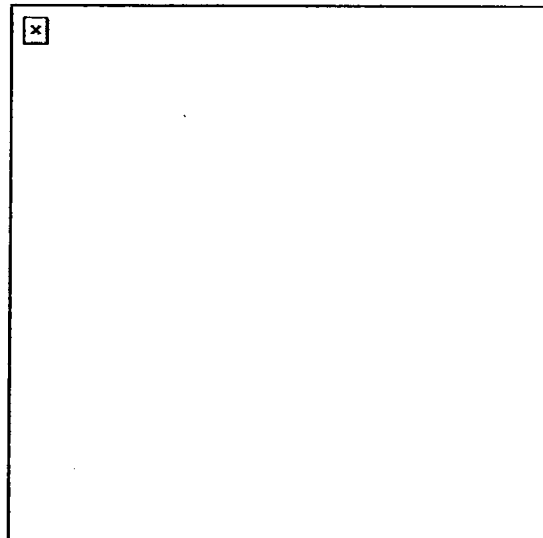

Figure 3. Firing around a wall.
- d. Fire around the wall, not over it, where possible (Figure 3).